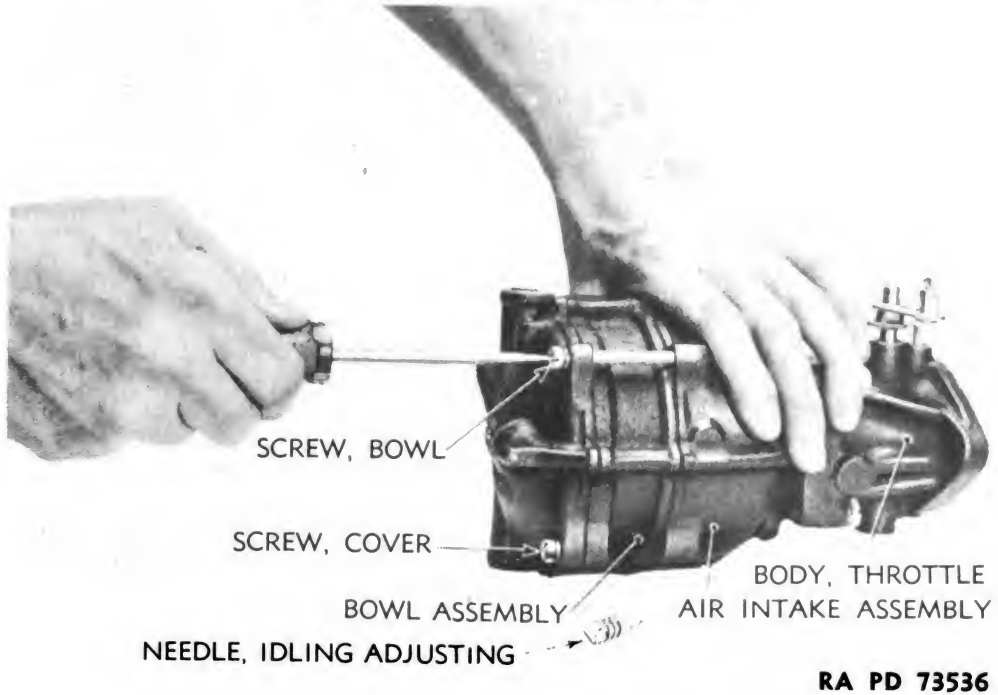

Figure 92 – Carburetor Bowl Assembly Removal
(1) Unscrew idling adjusting screw at top of carburetor, and remove screw and spring.
(2) Take out the two long outside screws holding the bowl to the air intake assembly. Remove bowl (fig. 92), turn upside down, and take off gasket.